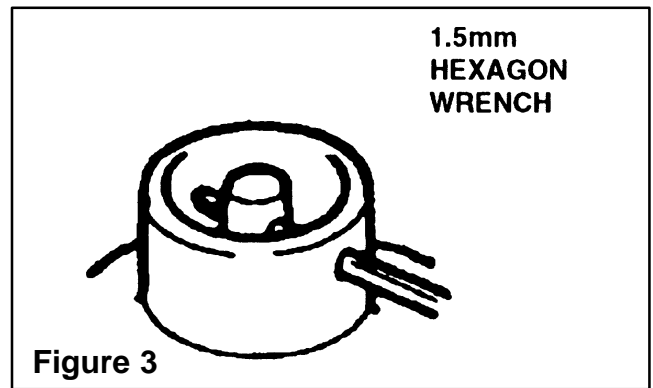

Figure 3
c) After depressing the push rod, recheck the alignment for the holes as shown in Figure 3 by passing a 1.3 - 2.0 mm hexagon wrench through the hole of the housing and push rod.